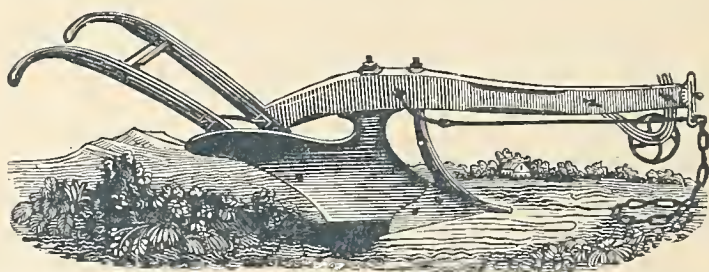

Fig. 255. — Improved Eagle Lock-Coulter Plow.
*Lock-Coulter Plows.* — The IMPROVED EAGLE PLOWS, Nos. 1, 2, and 20, are also made with coulter locking into the share and mould-board, as represented in *Fig. 255*, thus additionally adapting them for plowing stony, stumpy, or rough, uneven lands. The lock-coulter, steel-edged, being very strong and sharp, cuts off any roots,